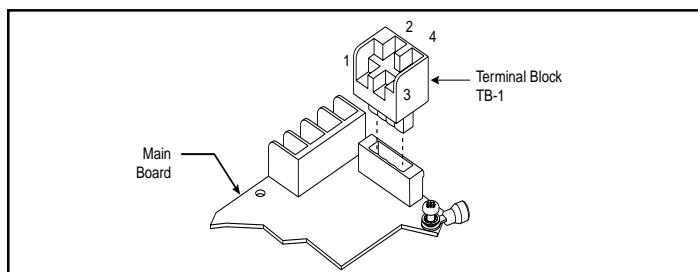

Figure 3. Terminal Block TB1
- d. Optional. Connect external 24V DC battery (not supplied) in series with separate diode assembly part 2600010 (supplied) to TB1 terminals 3 and 4 on the main board as shown in Figures 3 and 4 and marked on the diode assembly.
NOTE: Terminal Block TB1 can be unplugged from the main board to complete wiring as shown in Figure 3.